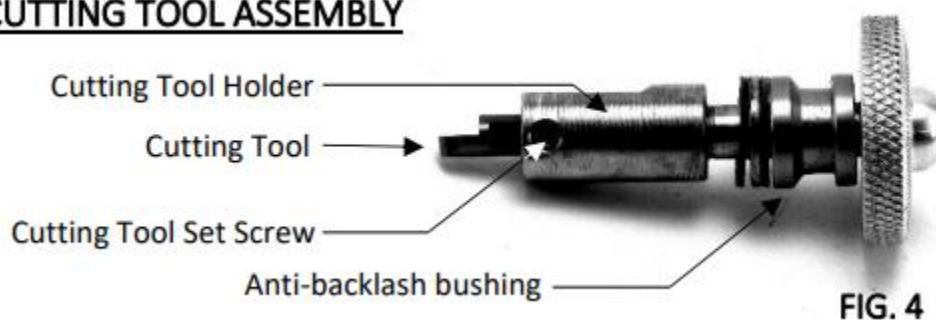

FIG. 4
3. Loosen cutting tool set screw and remove cutting tool from the cutting tool holder (FIG. 4)
Set Screw Cutting Tool Holder CUTTING TOOL ASSEMBLY FIG. 4 Anti-backlash bushing